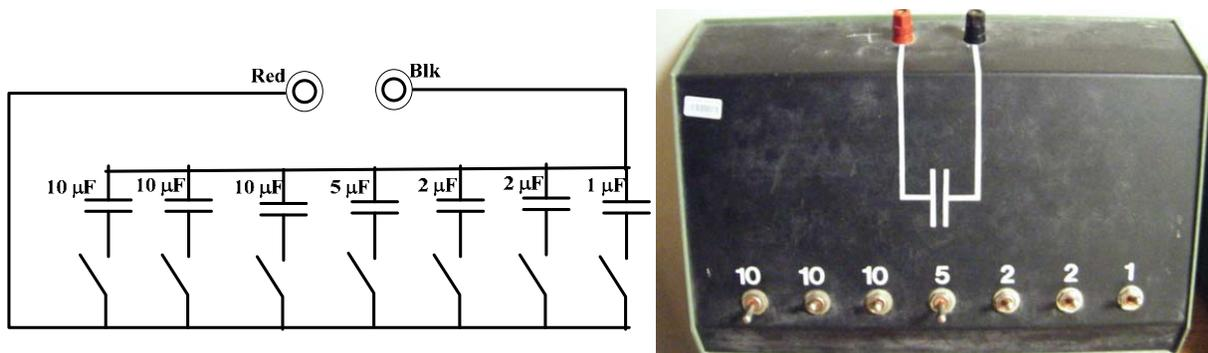

Figure D3: The Power Capacitor unit
The power capacitor (C) unit, shown in Figure D3, contains seven* power capacitors of values $1\mu\text{F}$, $2\mu\text{F}$, $2\mu\text{F}$, $5\mu\text{F}$, $10\mu\text{F}$, $10\mu\text{F}$ & $10\mu\text{F}$ which can be sequentially connected in parallel using switches, as shown. [*Some units may have 6 capacitors with values 1, 2, 2, 5, 10 & $20\mu\text{F}$]. Each capacitor is connected when a switch is toggled upwards. By sequentially toggling switches from right to left, terminal C values up to $40\mu\text{F}$ in $1\mu\text{F}$ increments can be obtained.